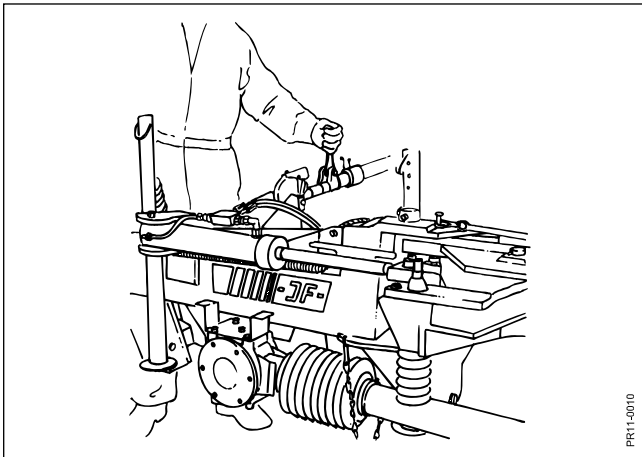

Fig. 3-9
- Fig 3-9** The cutting height can be adjusted with the length of the top link. A short top link gives a low cutting height.